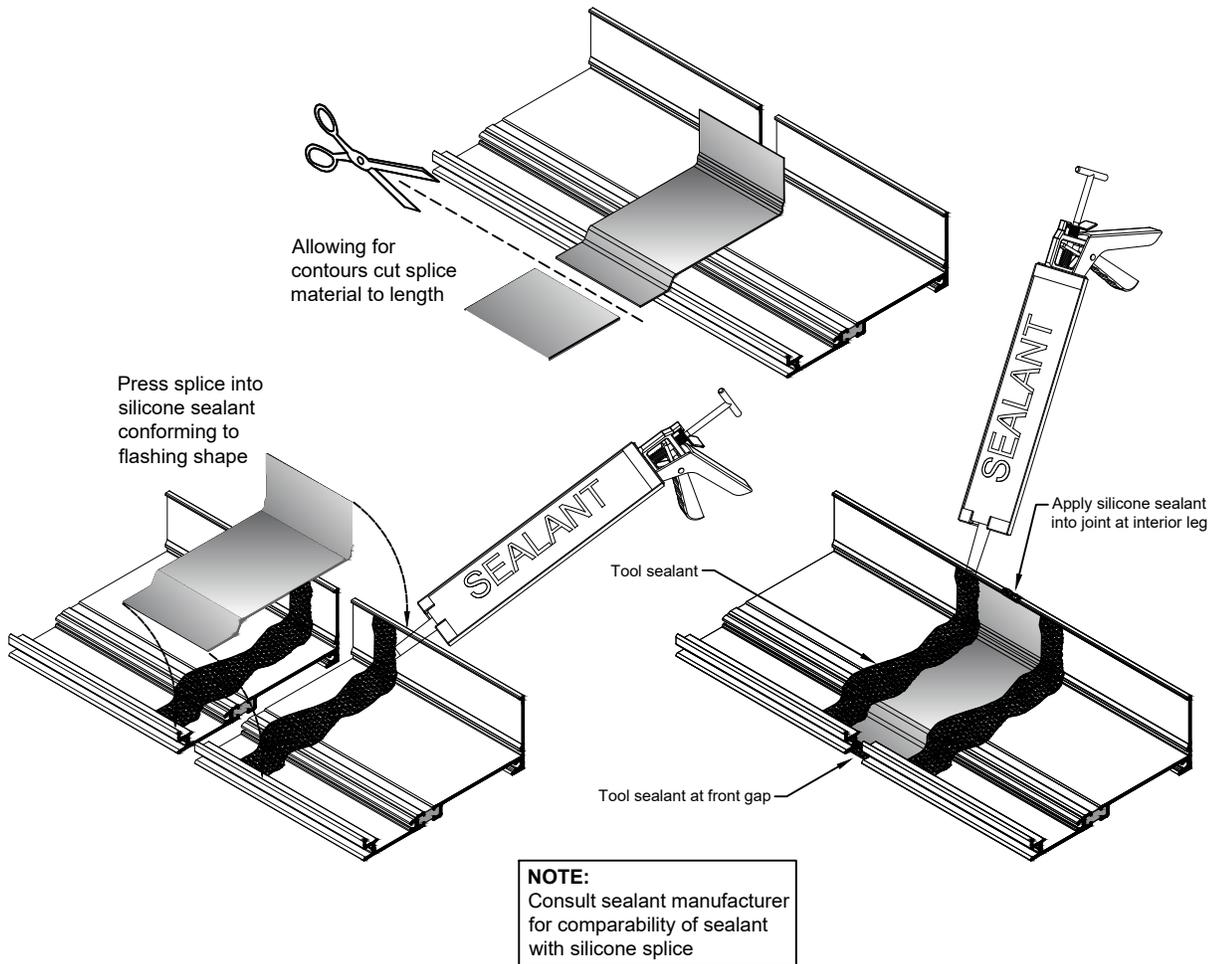

Fig. 24.1
- D. Lay silicone splice sleeve (P3444) into sill flashing at splice location and cut to length as shown in **Fig. 24.1**. Do not run sleeve onto the lip of the flashing; run the sleeve to the lower portion.
- F. Clean surfaces where splice will be applied. Apply sealant as shown in **Fig. 24.1**.
- G. Set splice sleeve in place and tool sealant as shown in **Fig. 24.1**. Seal front and back joints.